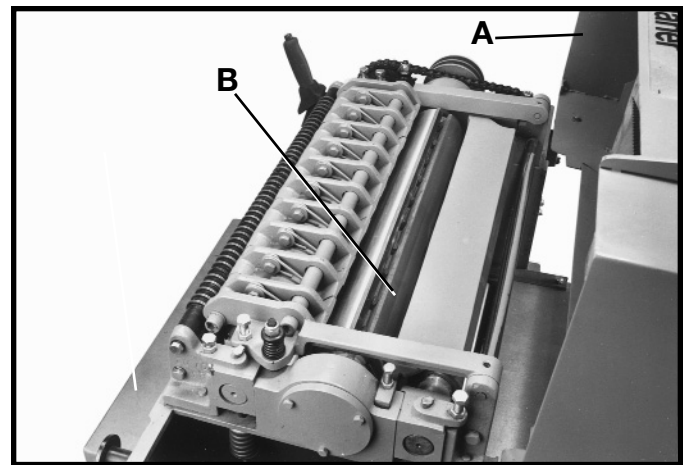

Fig. 33
2. Remove locking screw and raise top cover (A) Fig. 33, to expose cutterhead (B).